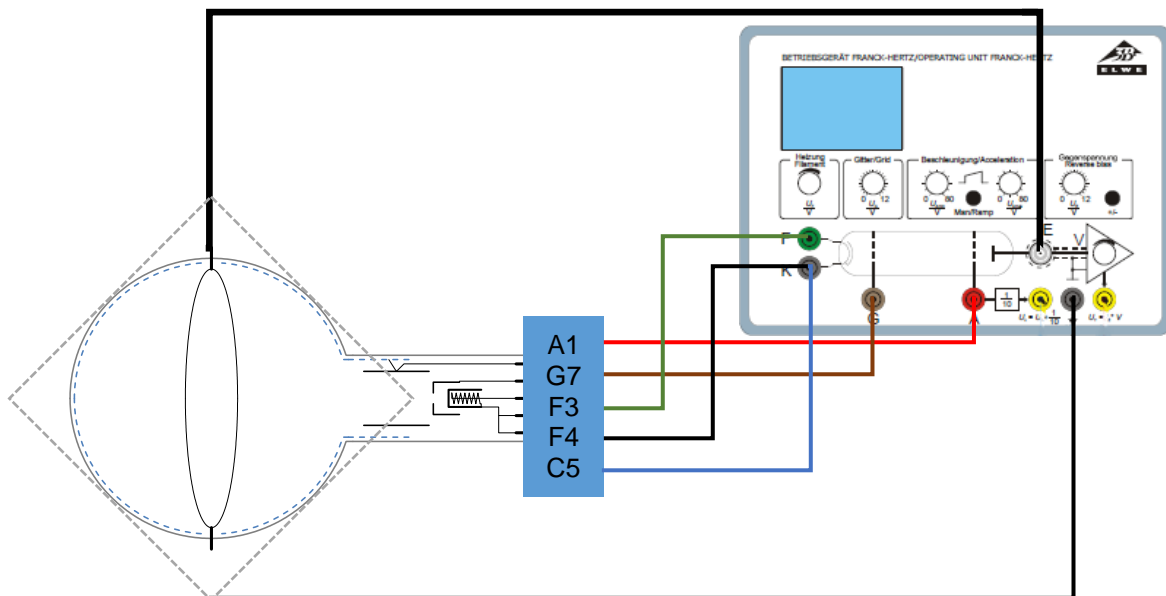
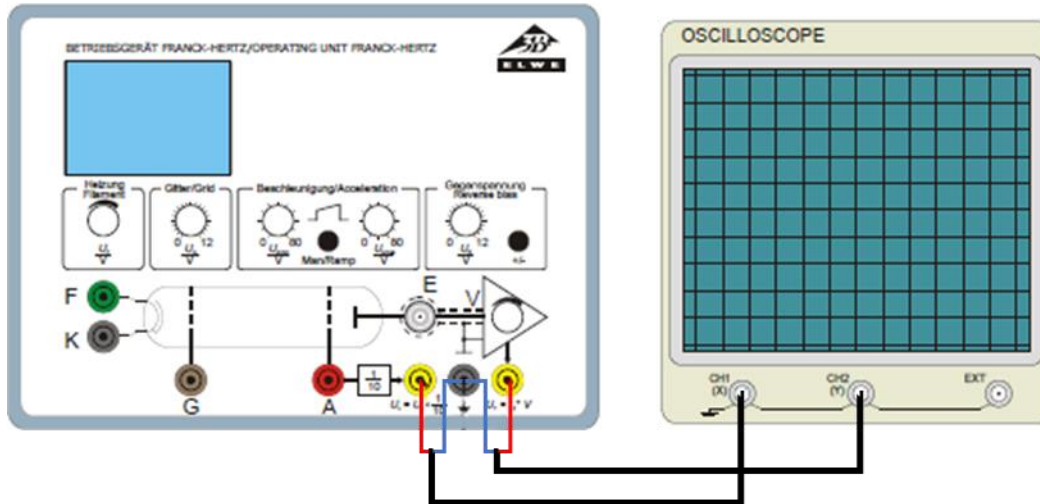

Fig. 2: Schematic layout of the experiment set-up by using the Franck-Hertz-power supply
Fig. 3: Electrical connection of an oscilloscope to the Franck-Hertz power supply
7.2 Experiment set-up (Fig. 2, Fig. 3)
- Connect output U_X of the Franck-Hertz-power supply to input CH 1 of the oscilloscope (deflection in X) and output U_Y to input CH 2 (deflection in Y) (see Fig. 3).